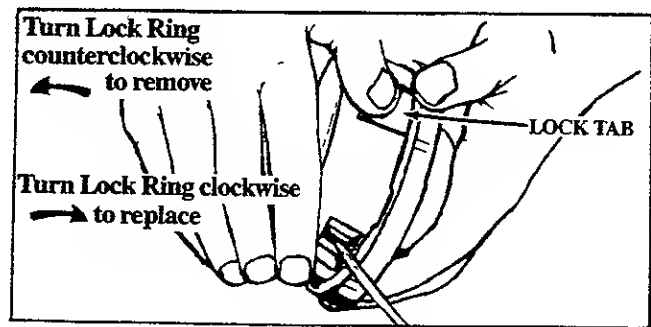

Figure 16
- Hold the Trimmer Head as shown in Figure 16. Press the Lock Tab and turn Cover counterclockwise.
- Align the Lock Ring over the three Catches on the Hub. Push the Lock Ring down on the Hub and turn clockwise →. Figures 16 and 17.